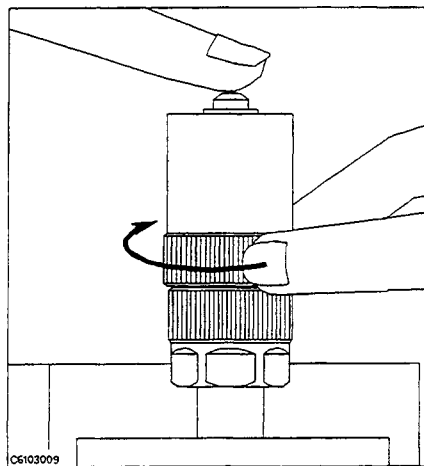

Figure 3-6.
6. Connect the 0 S termination to the APC-7® connector as shown in Figure 3-6.